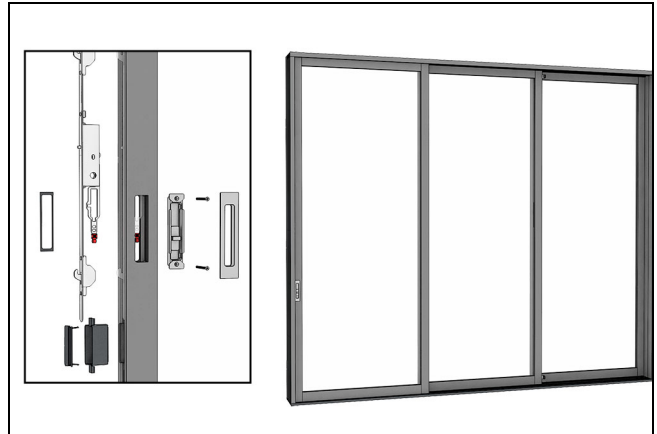

Figure 42
1. The sensor on the door is located under the interior behind the cladding. See Figure 42.